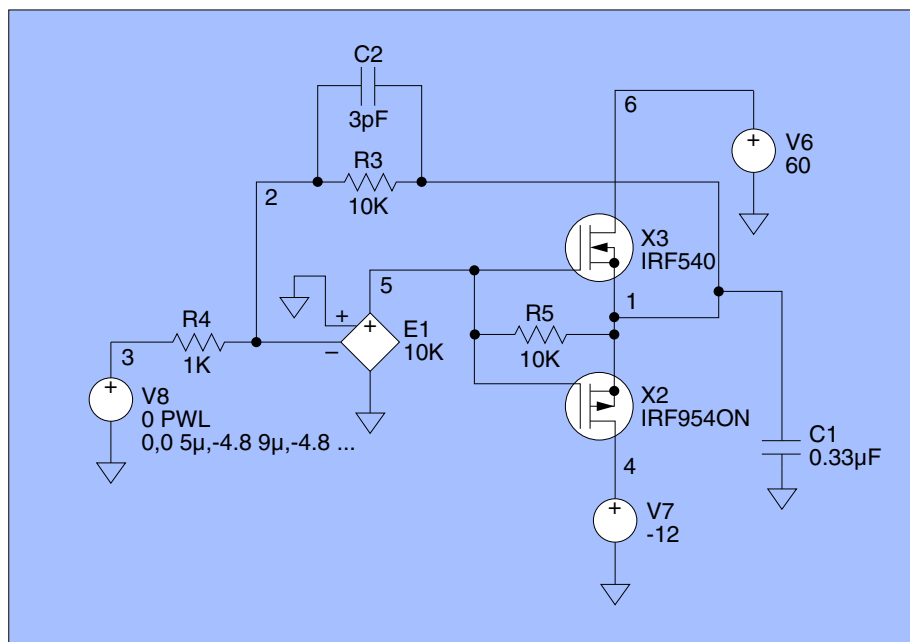
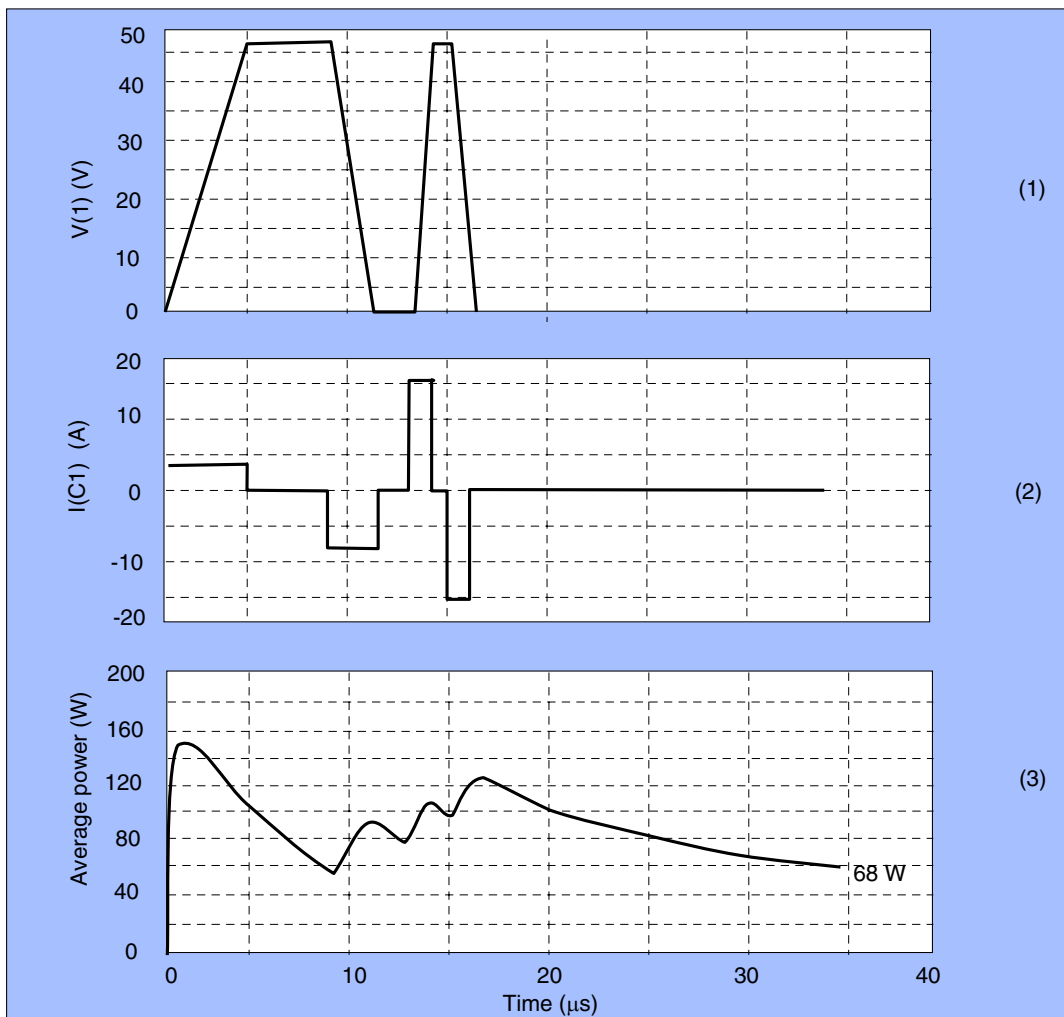

Figure 11. Spice representation of the transducer drive circuit. Note that capacitor C1 represents the printhead transducer.
Figure 12. Spice (1) amplified output voltage V(1), (2) Current pulses I(C1) applied to capacitor C1, (3) average power dissipated in the amplifier versus time.
Shown in Figure 11 is a simplified SPICE circuit that represents the MP111FD power operational amplifier circuit. In this example the amplifier is assumed to be driving four inkjet printheads simultaneously. Each printhead will be assumed to have 256 nozzles for a total of 1024 nozzles. The total capacitance of the four heads is 1 $\mu$ F. If we assume only every third nozzle is driven at any instant, then the maximum capacitance in this analysis is reduced to 0.33 $\mu$ F. This is the load capacitance identified as C1 in Figure 11. A piece-wise linear waveform is developed by V8 that duplicates the selected waveform, as illustrated in Figure 9. The results of the SPICE simulation are depicted by the three graphs in Figure 12.
- The pulse rate frequency is 30 kHz and the period of the pulse is 33.33 microseconds. Notice that in Plot (2) in Figure 12 the current pulses end after 16 microseconds. The remainder of the period is dead time. Therefore the time interval for the average is greater than the time over which instantaneous energy is being delivered. Consequently, 68 watts is indeed the average power that must be dissipated by the amplifier over the full period.